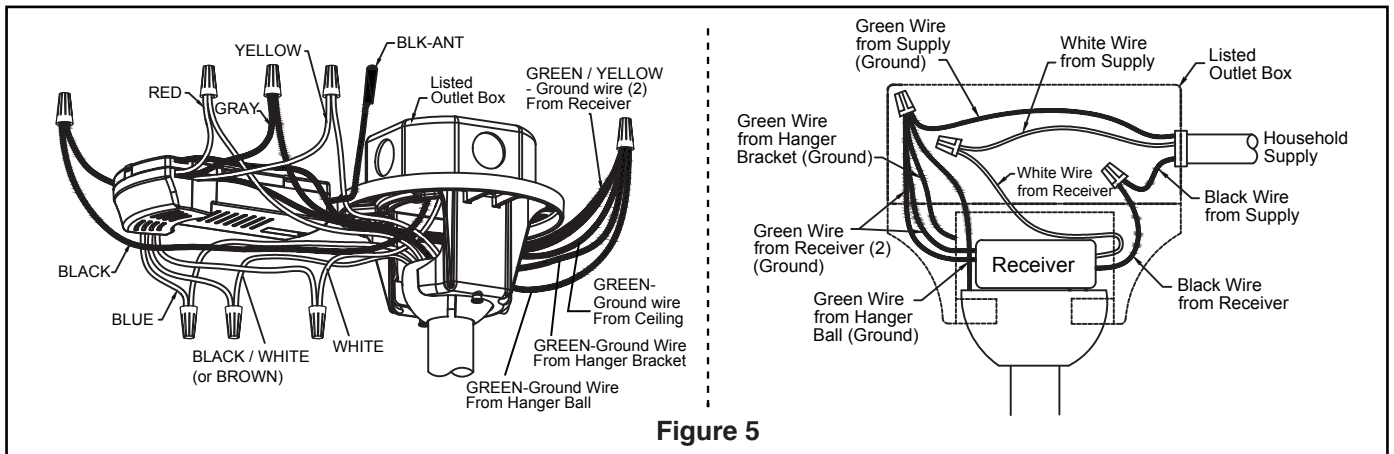

Figure 5
5. Route wires and safety cable through motor coupling cover, canopy screw cover and ceiling canopy. (Figure 5)
4. After connections have been made and put the white and green leads to one side and the black leads towards the other side, the connection should be turned upward and carefully push leads into the outlet box. The wires should be spread apart with the grounded conductor and the equipment-grounding conductor on one side of the outlet box and the ungrounded conductor on the other side. (Figure 5)
5. Assemble the light kit wire cover to the light plate assembly using the two key slots in the light kit wire cover. Replace the previously removed screw and securely tighten all three screws. (Figure 5)
5. To set the remote code same positions as the receiver with a small screwdriver or ball point pen (neither included), slide dip switches firmly up or down. (Figure 5)